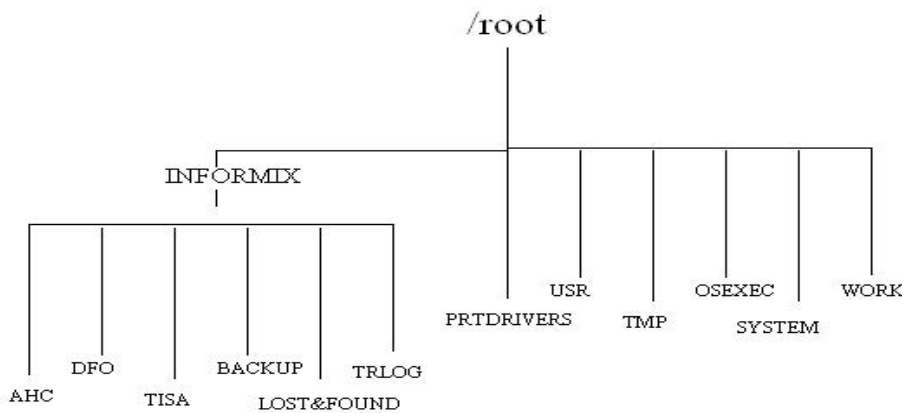

FIGURE 4.1-4 - UNIX File System Structure
- Ascend the file system hierarchy by specifying in the path name. The examples in Figure 4.1-4 make this clearer.
- Use Figures 4.1-4 to move around directories.